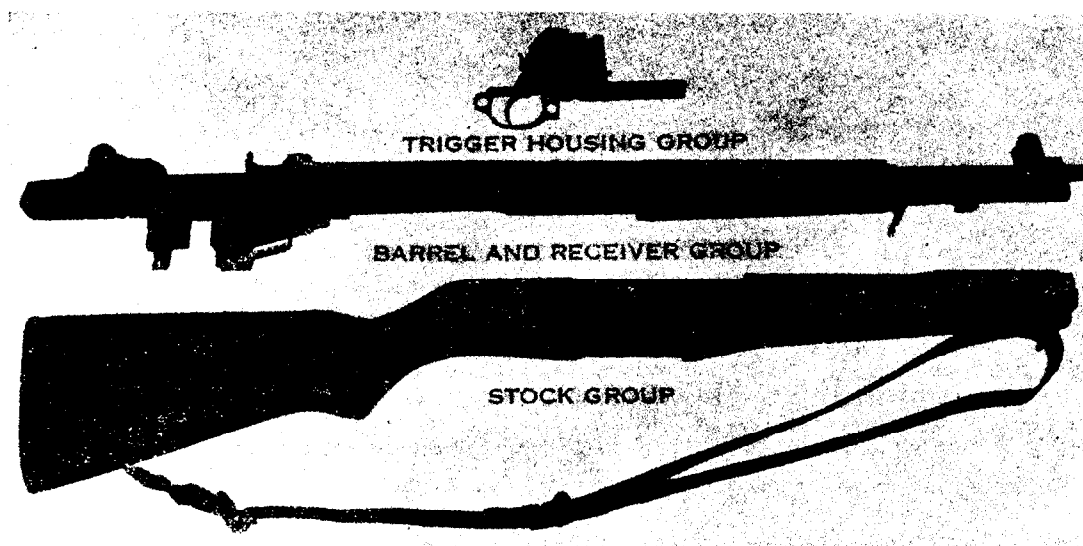

Figure 2. The three main groups.
a. The three main groups are the trigger housing group, the barrel and receiver group, and the stock group (fig. 2).